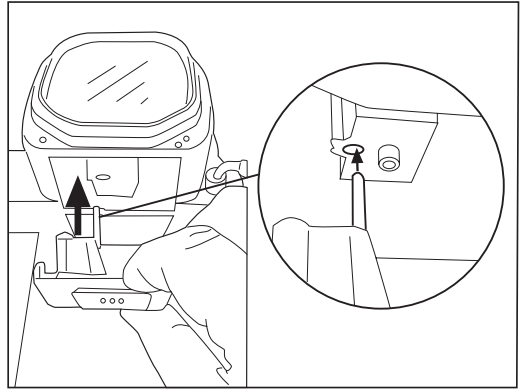

Fig. 19
- Replace the hopper on the machine body by pressing until the clips engage (**Fig.19**)
NOTE: the hopper cylinder must be inserted into the hole provided (**Fig. 19**)